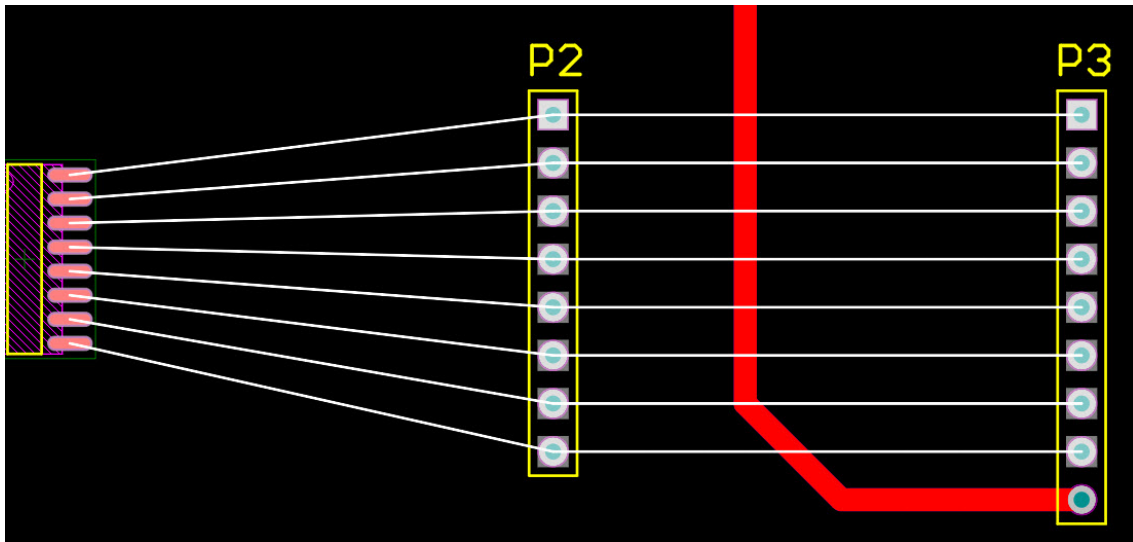

Figure 5. ADDR[7..0] bus selected
13. Moving to the right side of R1 we have the ADDR[7..0] bus. We could have used the **ALT** and mouse sweep to select these connection lines, but it is faster to use the *PCB* panel and click on the ADDR[7..0] net class entry, Figure 5.